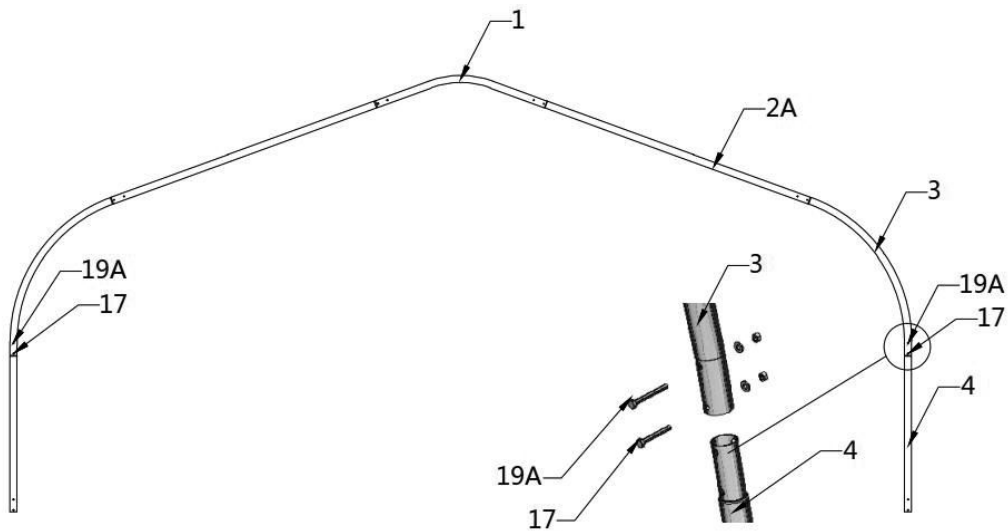

Figure 2
- The building includes 5 trusses : (1) front truss, (1) rear truss, and (3) middle trusses. The front and the rear truss are to install with the fabric panel (#23 and #23A).
- Parts used to install the front truss in this step (refer to figure 2) :
- (1) Peak arch tube (#1)
- (2) Upper rafter tube (#2A)